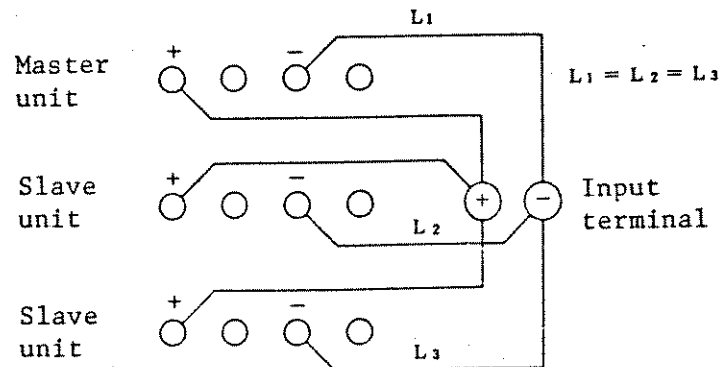

Figure 2-15-1
- Turn off the power supply switch. Connect the terminals of each of the units as shown in Fig. 2-15-1. The length of the loading wire cables to each of the units should be approximately the same. Also, note if electrical potential of the negative input terminal of a unit is different from the others, the current generated by the unit will be imbalanced.